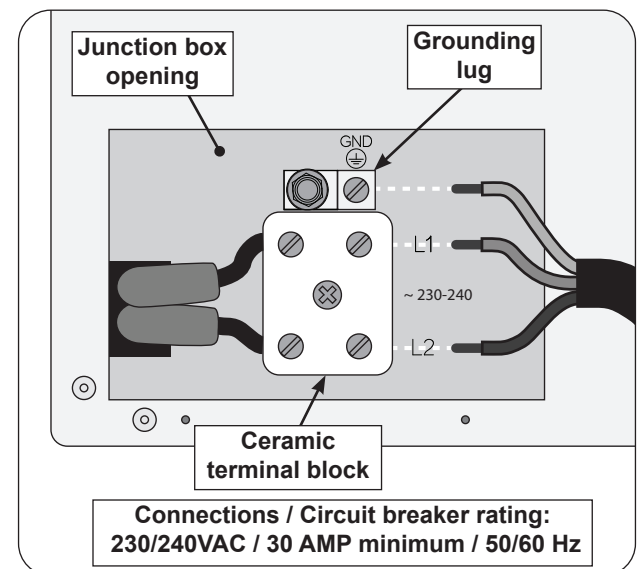

Fig. 33-3 Wire connection diagram
4. Connect the wires to the ceramic terminal block. Reference the wiring information below and Fig. 33-3.